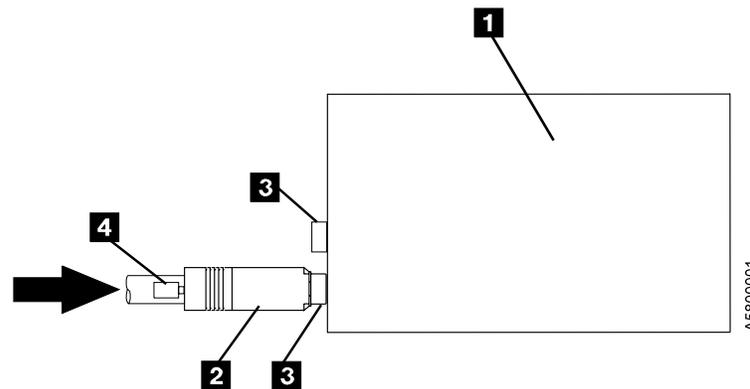

Figure 3. Connecting the SCSI Bus Cable to the 7208 Tape Drive. The view is from the side.
2. On the rear of the 7208 Tape Drive (**1** in Figure 3), attach the device connector end of the SCSI bus cable **2** to one of the SCSI connectors **3**.